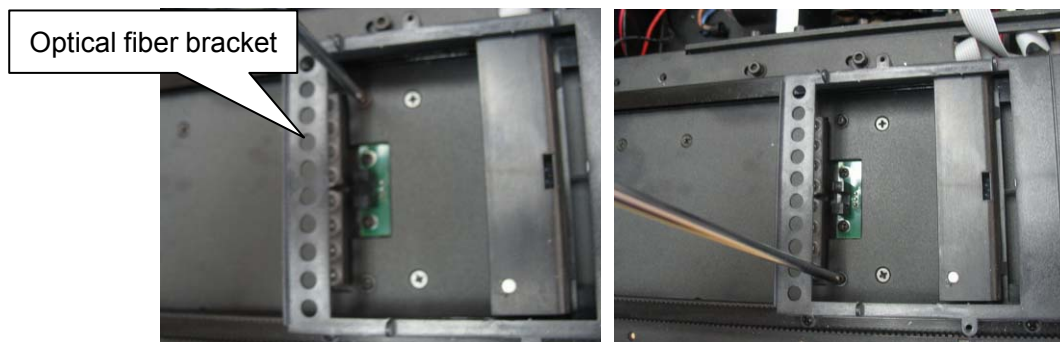

Figure 3-35
- 6、 Use a cross screwdriver M3 to remove the two screws which fix the optical fiber bracket, as shown in figure 3-35.